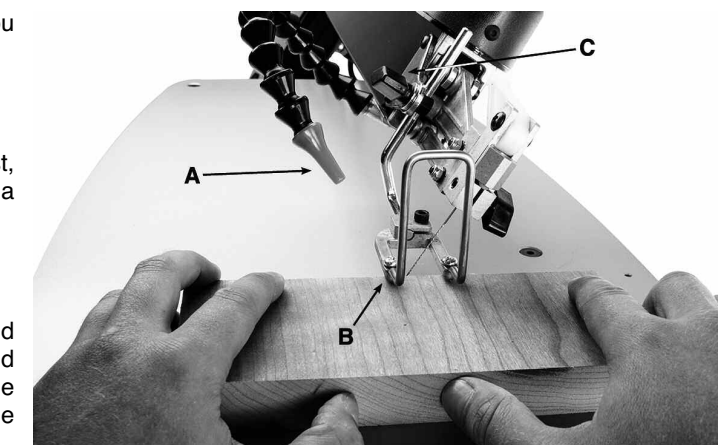

FIGURE 9
The built-in blower can be adjusted to keep the workpiece clear of dust, ensuring reference lines are visible. Adjust the nozzle (A) Fig.9 so that it is a comfortable distance away from your hands as you move the workpiece.
These Scroll Saws have a drop foot (B) Fig.9 that must be adjusted to hold the workpiece against the table during cutting. The drop foot can be adjusted up and down by turning the lock knob (C). Loosen the lock knob to set the drop foot at the desired height. Once the height is set, (ensuring the workpiece is still free to move underneath) retighten the lock knob.